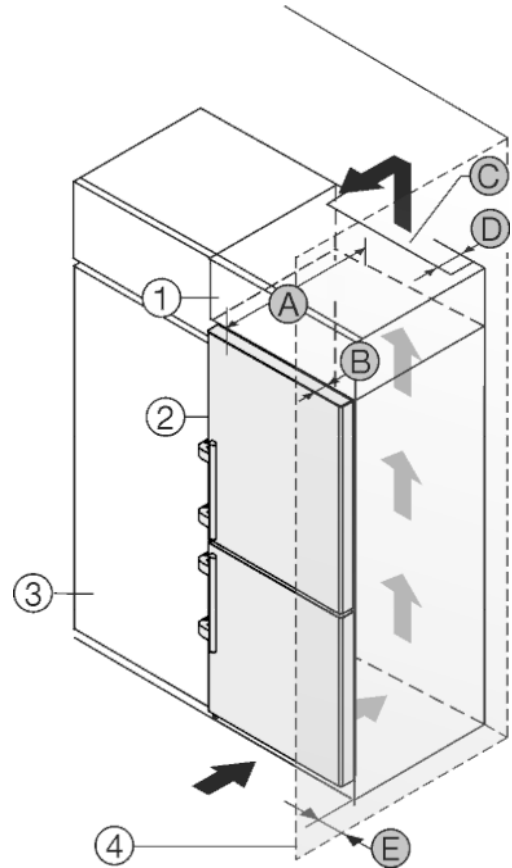

Fig. 11
The appliance can be built into kitchen units. A top cupboard *Fig. 11 (2)* can be added above the appliance in order to bring the appliance *Fig. 11 (1)* up to the height of the fitted kitchen units.
The appliance can be installed right next to the kitchen cabinet *Fig. 11 (3)*. The appliance must stick out by the depth *Fig. 11 (B)* from the front of the cabinet so that the doors can be opened fully. The appliance may protrude further depending on the depth of the kitchen cabinets and whether wall spacers are used.
- There must be a ventilation shaft with the depth *Fig. 11 (D)* at the back of the top cupboard over the entire width of the cupboard.
- The ventilation shaft *Fig. 11 (C)* must be observed under the ceiling.
If the appliance is installed with the hinges next to a wall *Fig. 11 (4)* the distance *Fig. 11 (E)* between the appliance and the wall must be observed. This is how far the handle protrudes when the door is open.